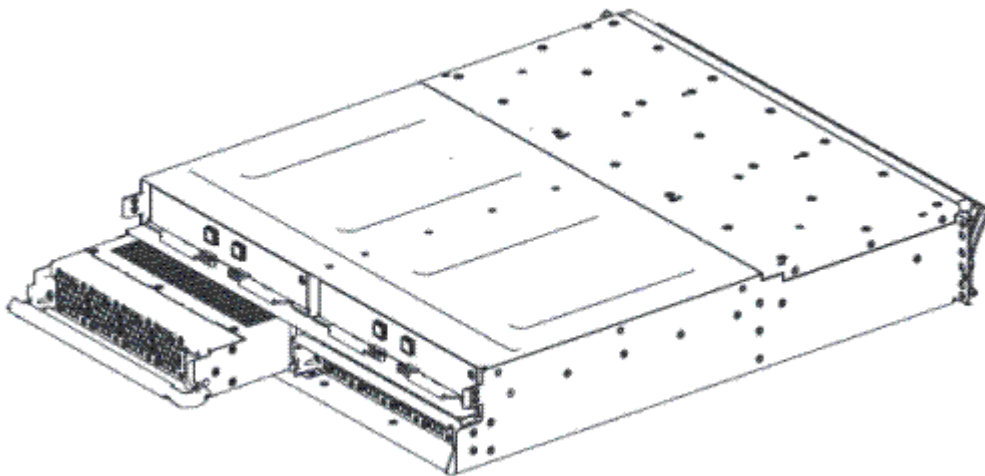

Figure 90. Removing the power supply unit from the left side of the expansion enclosure
5. Using the handle, gently slide the power supply out of the enclosure, as shown in Figure 90 on page 134.